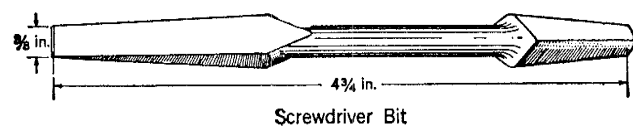

Fig. 8
**4.01** The screwdriver bit, illustrated in Fig. 8, is provided for use where a considerable number of the larger screws are to be placed or removed and a brace is available.